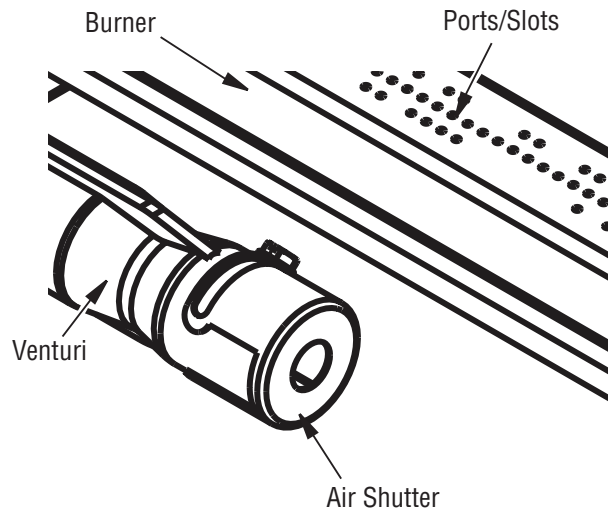

Figure 31 - Injector Holder On Outlet Burner Tube
2. Inspect burner, air shutter and orifice for dust and dirt (*see Figures 31 and 32*).